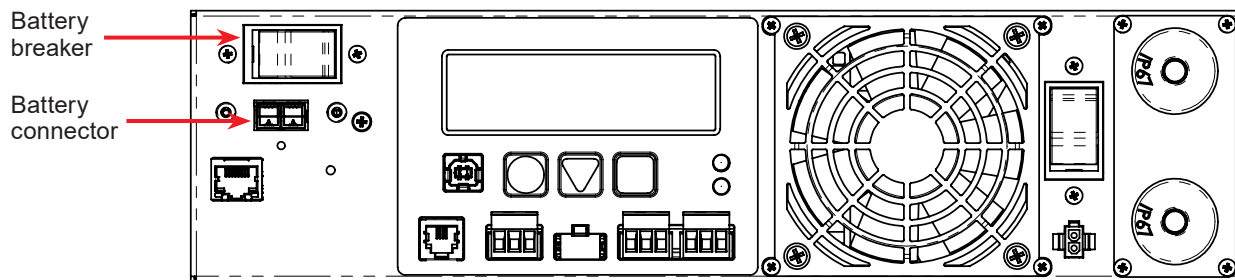

Figure 17 — FXM 350 Front Panel
8. Connect the external batteries to the Battery connector on the FXM 350 UPS—see Figure 17.